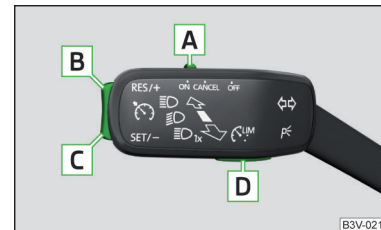

Fig. 290
Overview of the CCS controls » Fig. 290
- By pressing the button  » Fig. 290 during the regulation this is cancelled and the Speed Limiter is activated.